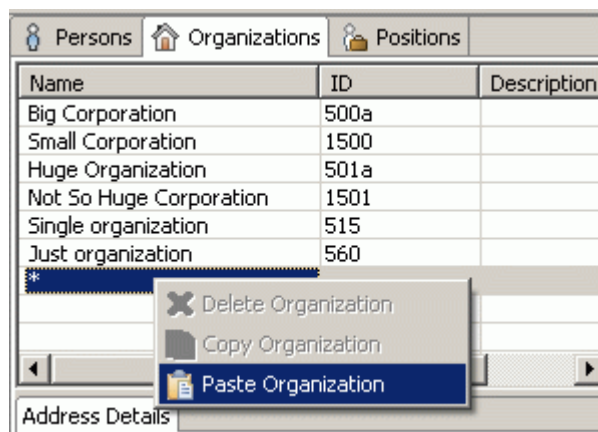

Figure 4. Context sensitive menu in Organizations panel, Paste Organization
- Right click on the auto row (cell with an asterisk) at the bottom of the table list. A context sensitive menu appears (see Figure 4).